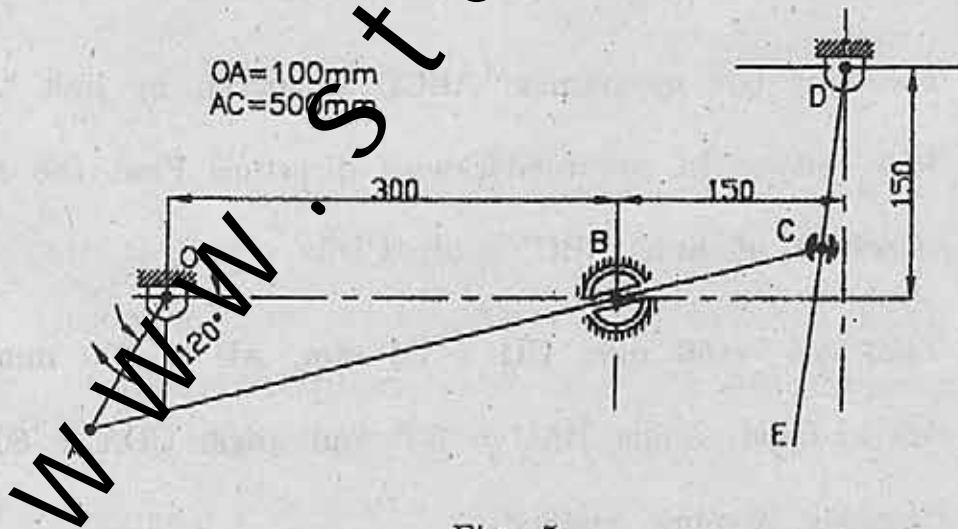

Fig. 5
6. As shown in Fig. 5, crank OA, 100 mm long rotates clockwise at 100 rpm, Rod AC, 500 mm long slides in a swiveling pin at 'B'. The end 'C' slides on a swinging link DE. (Movable swivel joint at C) When the angle BOA is 120° , find the angular velocity and angular acceleration of 'DE'. Use relative velocity and relative acceleration method. [16]